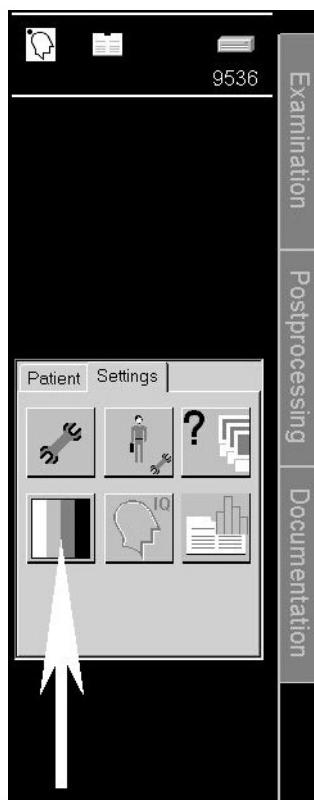

Fig. 1
For the following adjustments/checks of the monitors test image S8_8 from the "pattern\img" folder is used (Fig. 1).
- Select the "Check test images" button in the "Settings" sub task card (Fig. 1).